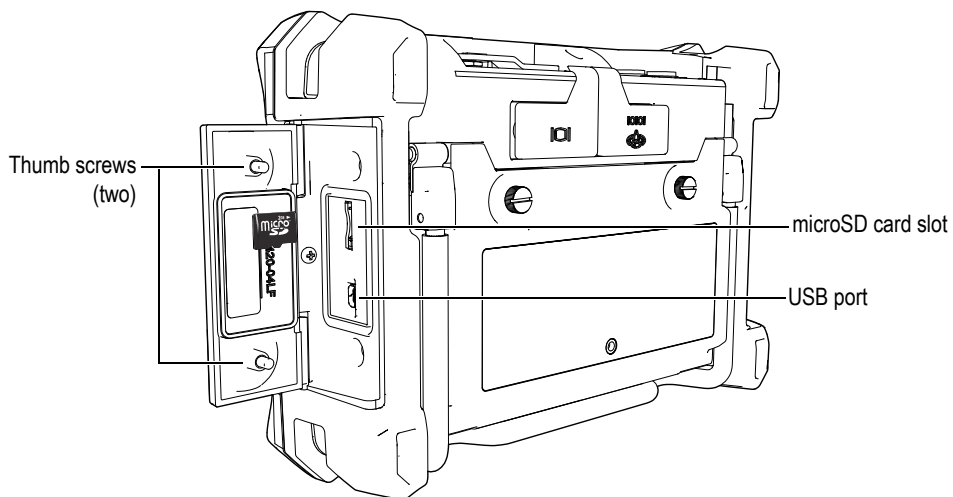

Figure 1-13 Installing the microSD card
2. Loosen the two thumb screws, and then open the Magna-Mike 8600 I/O door (see Figure 1-13 on page 30).